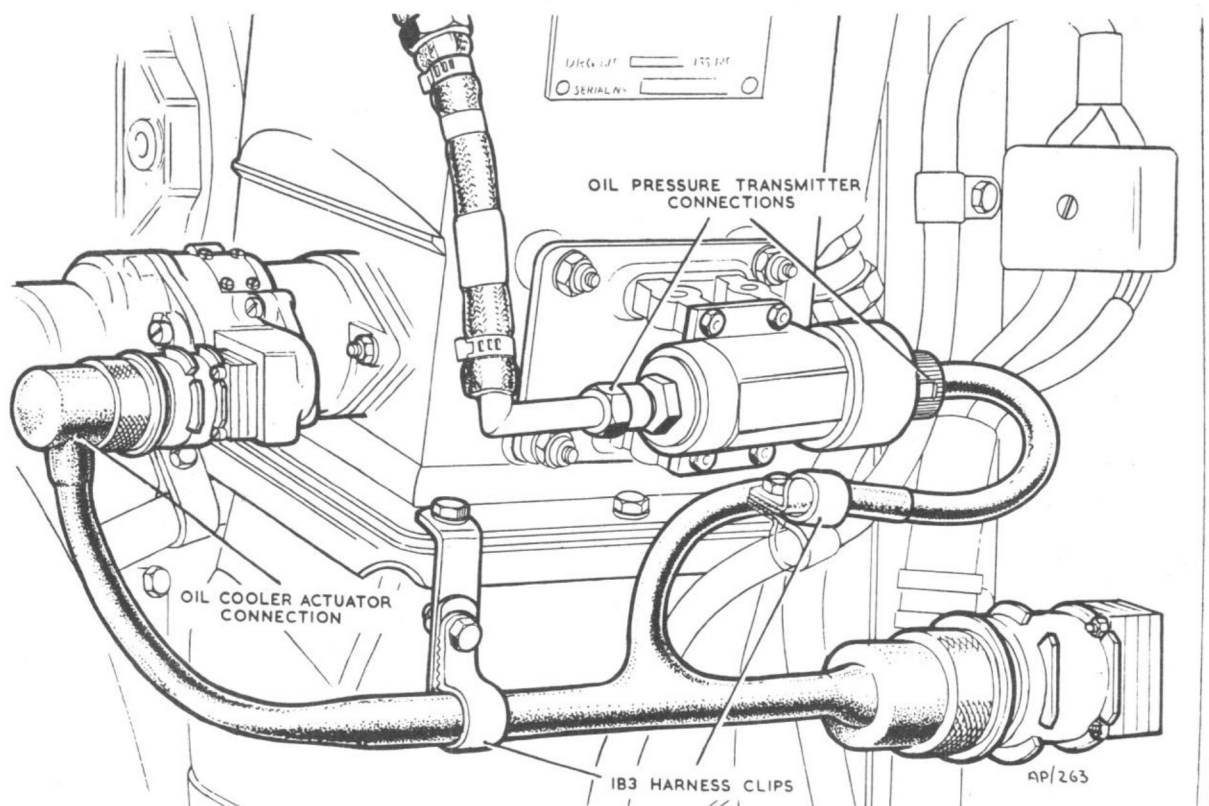

Fig. 3. 1.B.3. cable assembly
8. The oil pressure transmitter complete with the anti-vibrational mounting is secured to the oil cooler on the starboard side of the unit (fig. 3). The procedure for removing the oil pressure transmitter is as follows:—